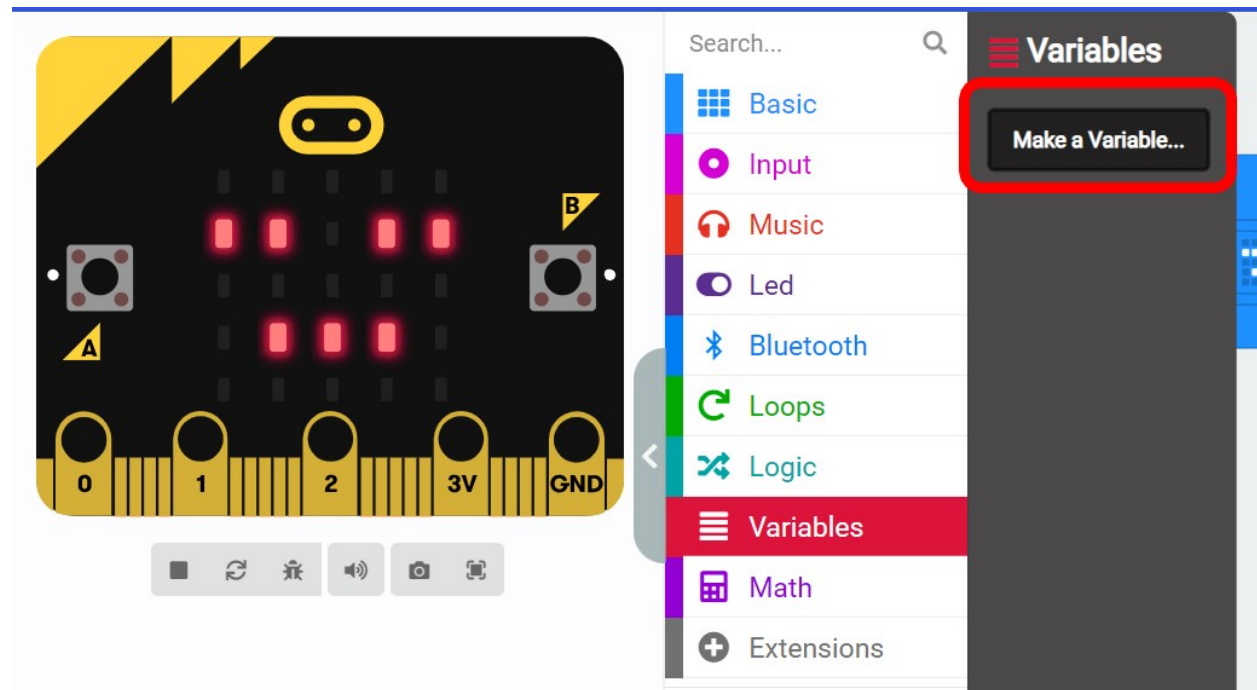

Figure 9: Creating a Variable
**Note:** to create the variable “command” click on the “Variables”, and then on the “Make a Variable” button (Figure 9). On the pop-up menu, type the name “command” to the “new variable name” section, and press Ok. The “set command to ...” block of command will appear to Variables sub-menu.